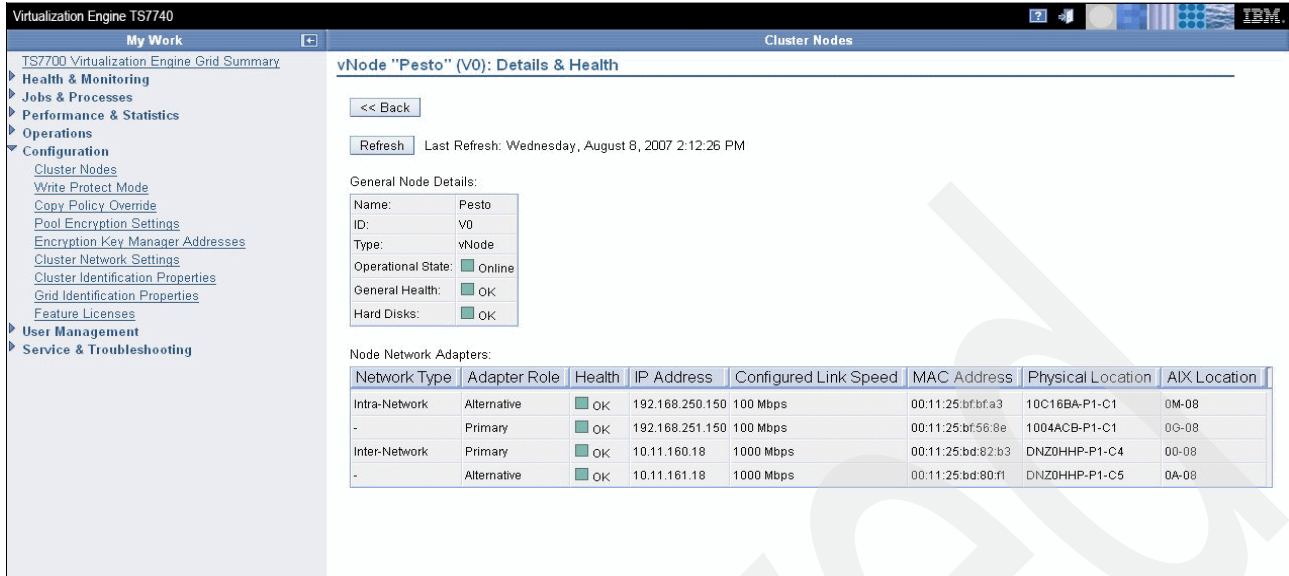

Figure 7-30 TS7700 Management Interface Cluster Node, Details & Health
- Details & Health** View details about the selected node. Details shown include general node information, node state and health information, and networking settings for the selected node. See Figure 7-30 as example.